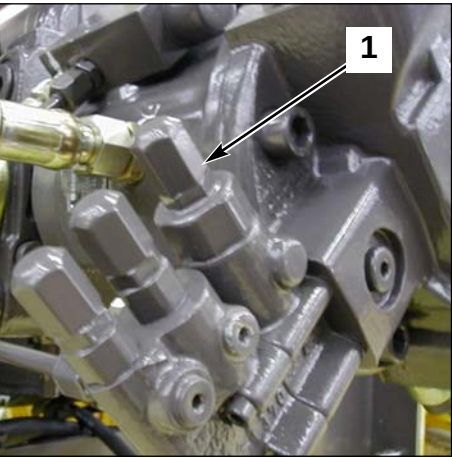

Fig. 3 Equipment pump
- 4- Loosen the lock nut and turn the pressure controller screw (1 fig. 3) clockwise in order to increase the pressure.